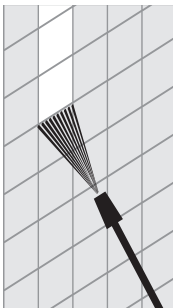

Fig. 9
> Turn the spray gun (2) to orientate the fan jet in a better way (Fig. 9, 10).